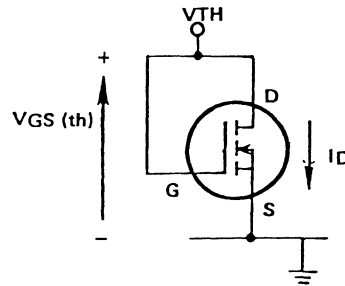

Figure 2. N-Channel $V_{GS(th)}$ Measurement
A. $V_{GS(TH)}$ – The gate threshold voltage. It is defined as the voltage from gate to source required to produce a specified drain current. For ease of measuring, the drain is commonly shorted to the gate. (The measurement circuit is shown in Figure 2.)